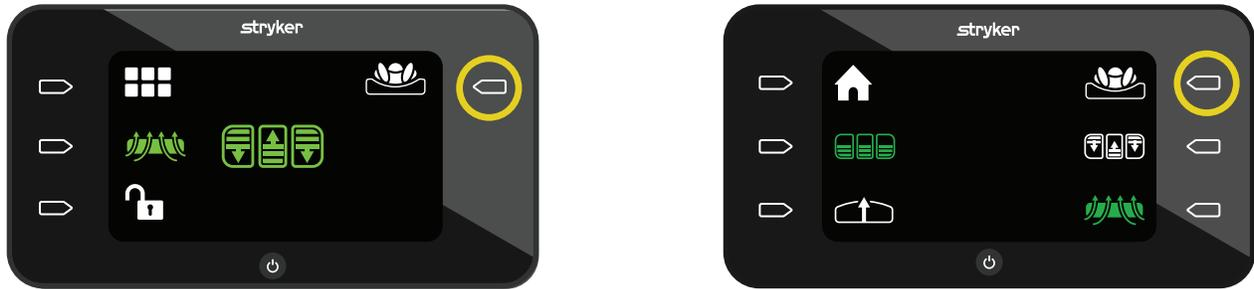

Figure 36 – AST mode off
1. To start the AST mode, press the **Action** button next to the **AST mode** icon (Figure 36).